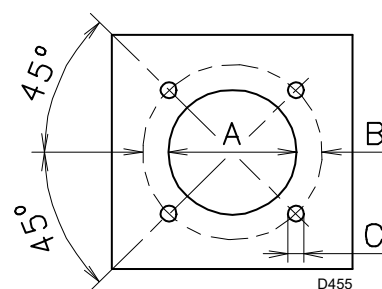

Fig. 13
Pierce the closing plate of the combustion chamber, as in Fig. 13. The position of the threaded holes can be marked using the thermal insulation screen supplied with the burner.
- Fit the entire burner onto the boiler hole prepared previously (Fig. 13), and fasten with the screws supplied.